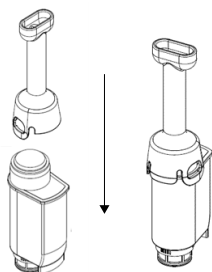

Fig. 9
- ➔ Pull the filter out of the water tank using the filter holder (Fig. 9).